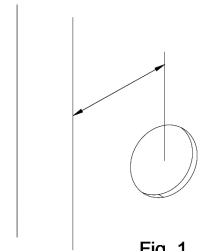

Fig. 1
1. At the required height, use a pencil to mark 40mm (narrow style lock) or 60mm from the edge of the door. Drill a 32mm diameter hole through the door. **(See Fig.1)**